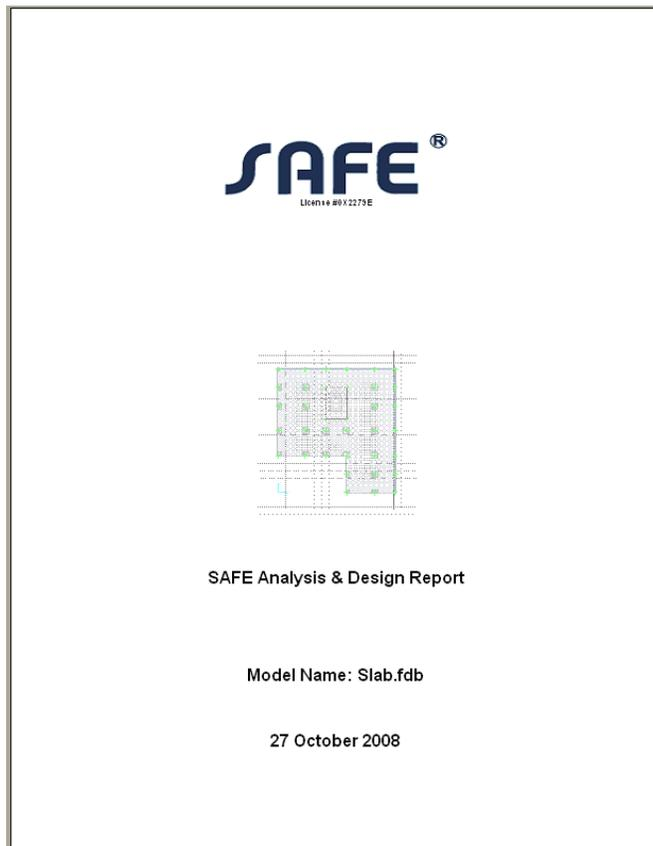

Figure 48 Cover Page for Report
- F. Type **SLAB** in the File name edit box and click the **Save** button. A report, with a cover similar to that shown in Figure 48 should be displayed in your word processor, and will be saved to your hard disk.